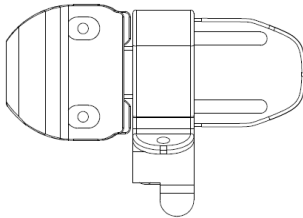

Figure 1
*Ensure the hooks are mounted all the way to the inside or outside of the tracks on the clamps. Mounting in the middle will cause the back to move side to side. See *Figures 1, 2 & 3* for correct and incorrect placement on the hooks.